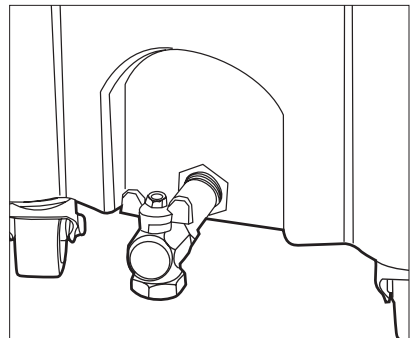

Figure 1
6. Thread the 3/4" bushing [8] and drain valve [9] into the coupler on the bottom front of the drain (Figure 1).